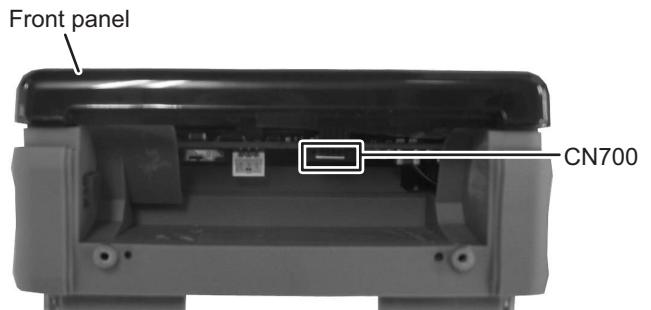

Fig.5
- (2) Disconnect the flexible wire of the touch panel from the connector CN700 of the main board. (See Fig.5)
- (3) Take out the front panel, the caution label and the touch panel. (See Fig.5)